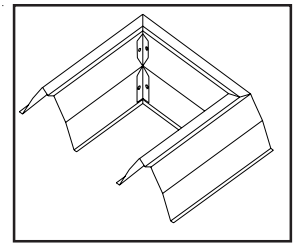

Figure 3-17
**“U” Reflectors** (Part No. RU) cover TF1B “U” Fittings. They attach to standard reflectors covering the end of a “U” configuration (see figure 3-17). Reflectors cannot be rotated after installation of this accessory.